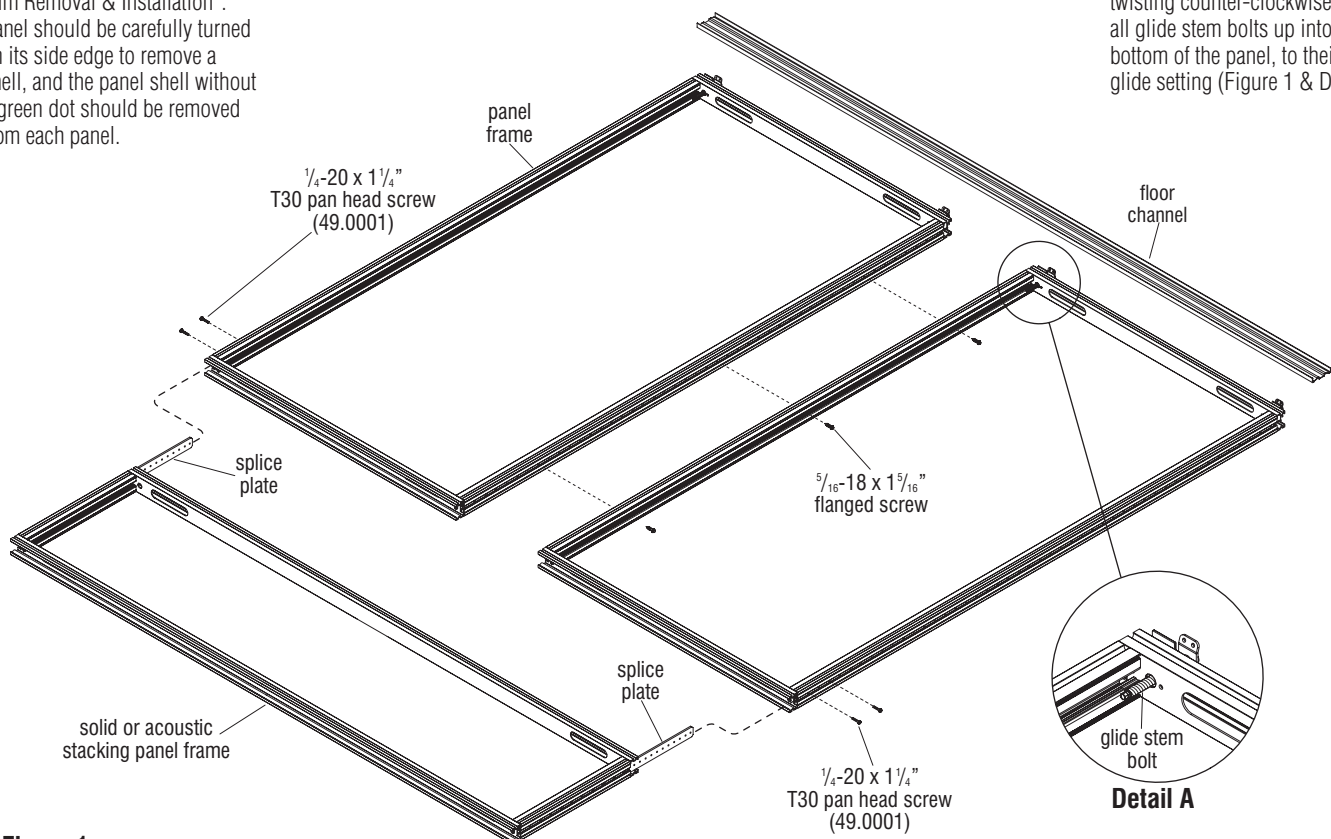

Figure 1
3. After removing the panel shells from the Evoke panels to receive a panel-spanning stacking section, carefully lay the panels flat onto the floor with the no-panel side face up, and in the sequence as specified by the space-planning layout. Identify the panel pairs (or three) which will receive one solid or acoustic stacking section above, and carefully align the panels together for assembly. Using three evenly spaced  $\frac{5}{16}$ -18 x  $1\frac{5}{16}$ " flanged screws at pre-drilled holes in the panel's vertical frame uprights, secure the panels together (Figure 1).
4. Locate and carefully lay the solid or acoustic panel-spanning stacking section onto the floor above the panels to receive it. Slide the splice plates of the spanning stacking section into the extrusions of the panel's vertical frames as illustrated. Pressing further, tightly engage the bottom of the stacking section into the top horizontals of the panel frame. While holding the stacking section tight to the top of the panel, use  $\frac{1}{4}$ -20 x  $1\frac{1}{4}$ " T30 pan head screws (49.0001), two at each vertical panel top and secure the splice plates of the stacking section to the holes in the vertical members of the panel frames as illustrated. Repeat for all panel frames in the run to receive solid or acoustic stacking sections (Figure 1).
5. With the "panels with spanning stacking section" fully assembled and laying on the floor, use a power drill, 18" extension with  $\frac{5}{16}$ " socket twisting counter-clockwise to retract all glide stem bolts up into the bottom of the panel, to their lowest glide setting (Figure 1 & Detail A).